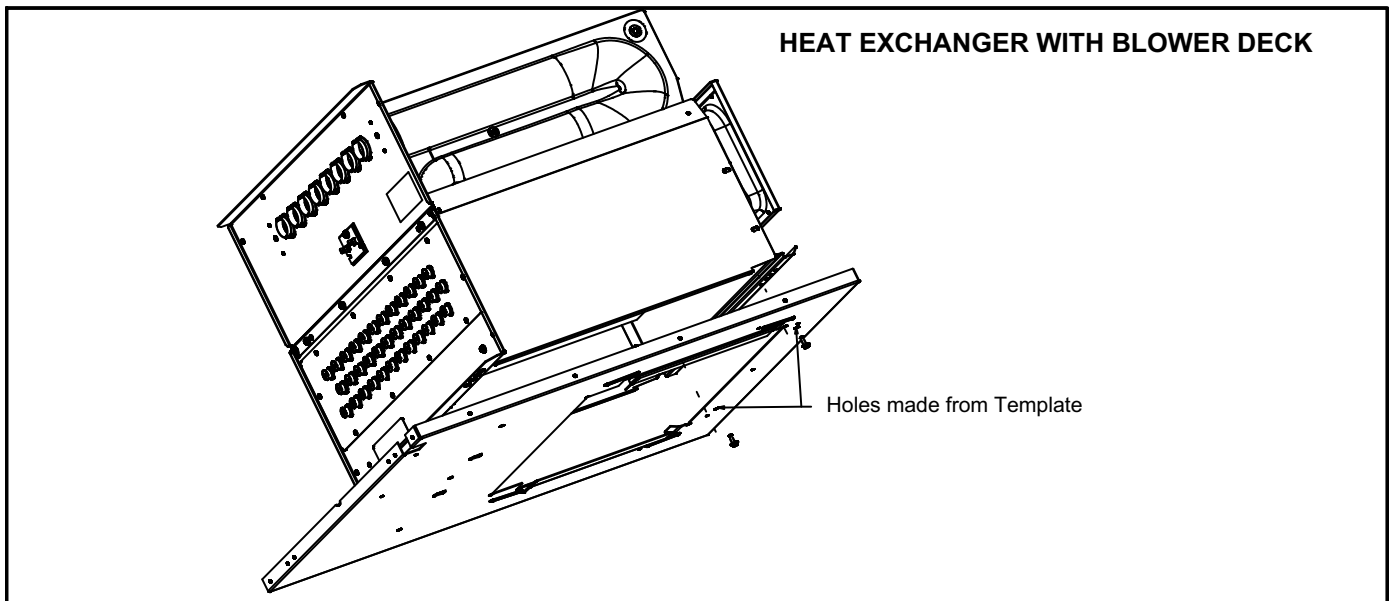

FIGURE 4
- 24 - Secure Heat exchanger to the blower deck using two #8 screws through blower deck first. See figure 4.